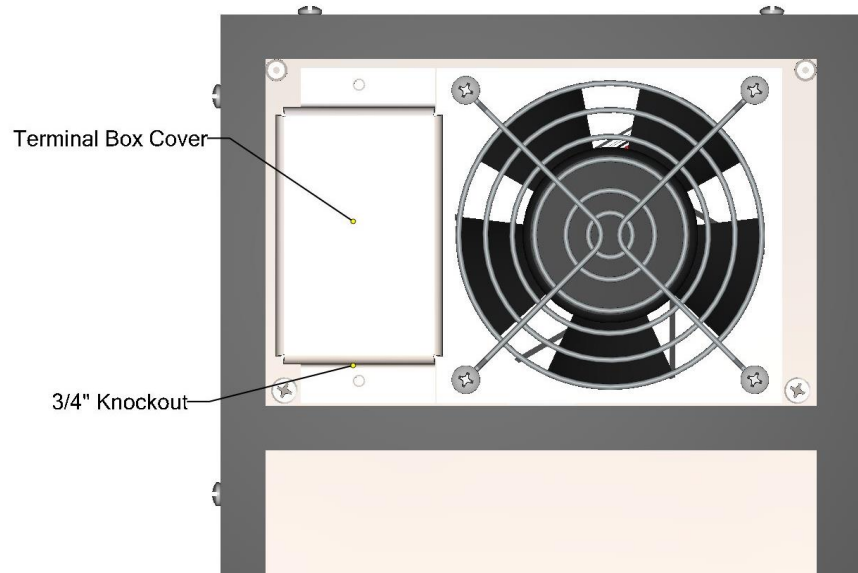

Figure 3: Terminal Cover
- a. For terminal block option, remove the (2) terminal box cover screws and remove the cover. (See *Figure 3: Terminal Cover pg:8*). The terminal block will be used for power. (See *Figure 4: Terminal Block pg:8*)
- b. Remove Dome Plug and route power cable through the 0.875" (22.23mm) hole. (See *Figure 3: Terminal*) Use an approved strain relief to secure wires.